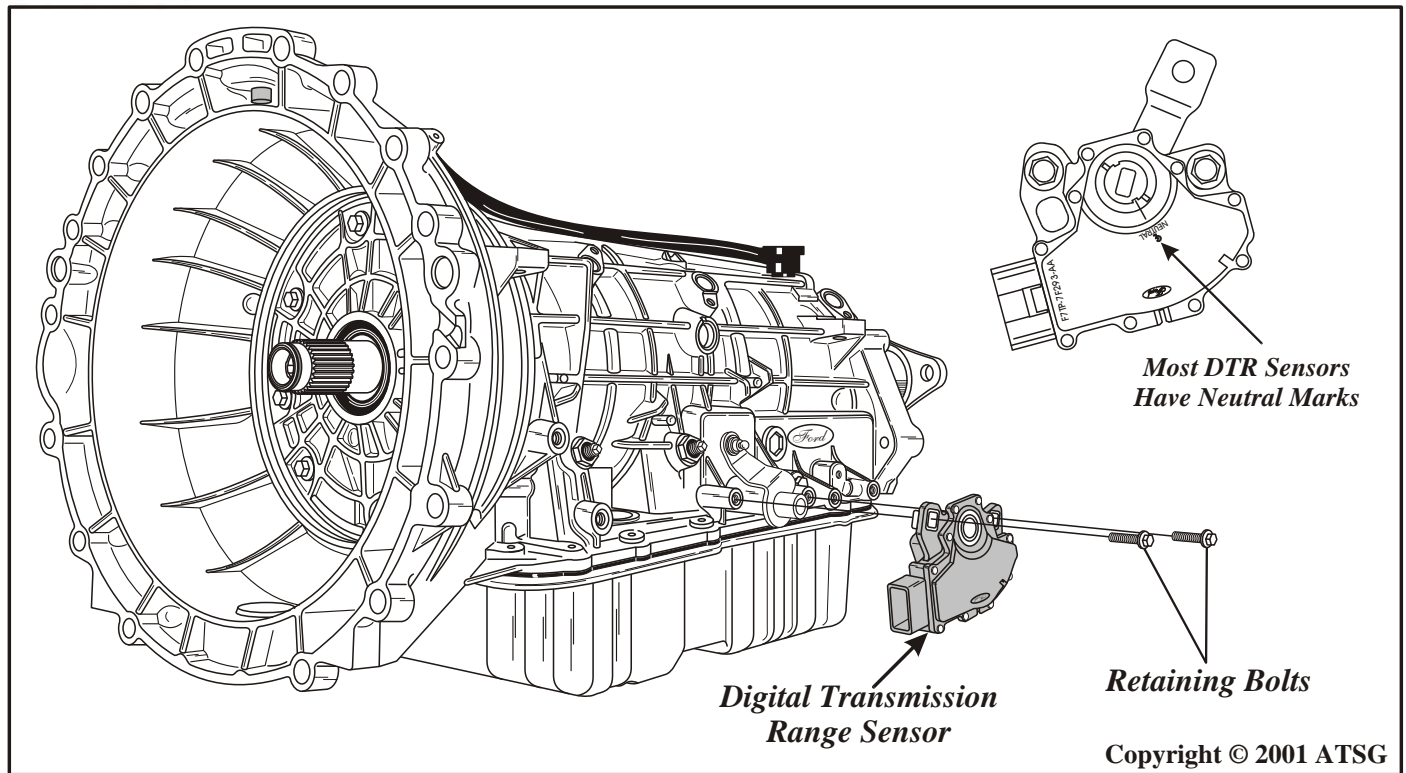

Figure 184
1. Place the manual lever in the neutral position and install the Digital Transmission Range sensor, as shown in Figure 184.
2. Install the two DTR retaining bolts finger tight at this time (See Figure 184).